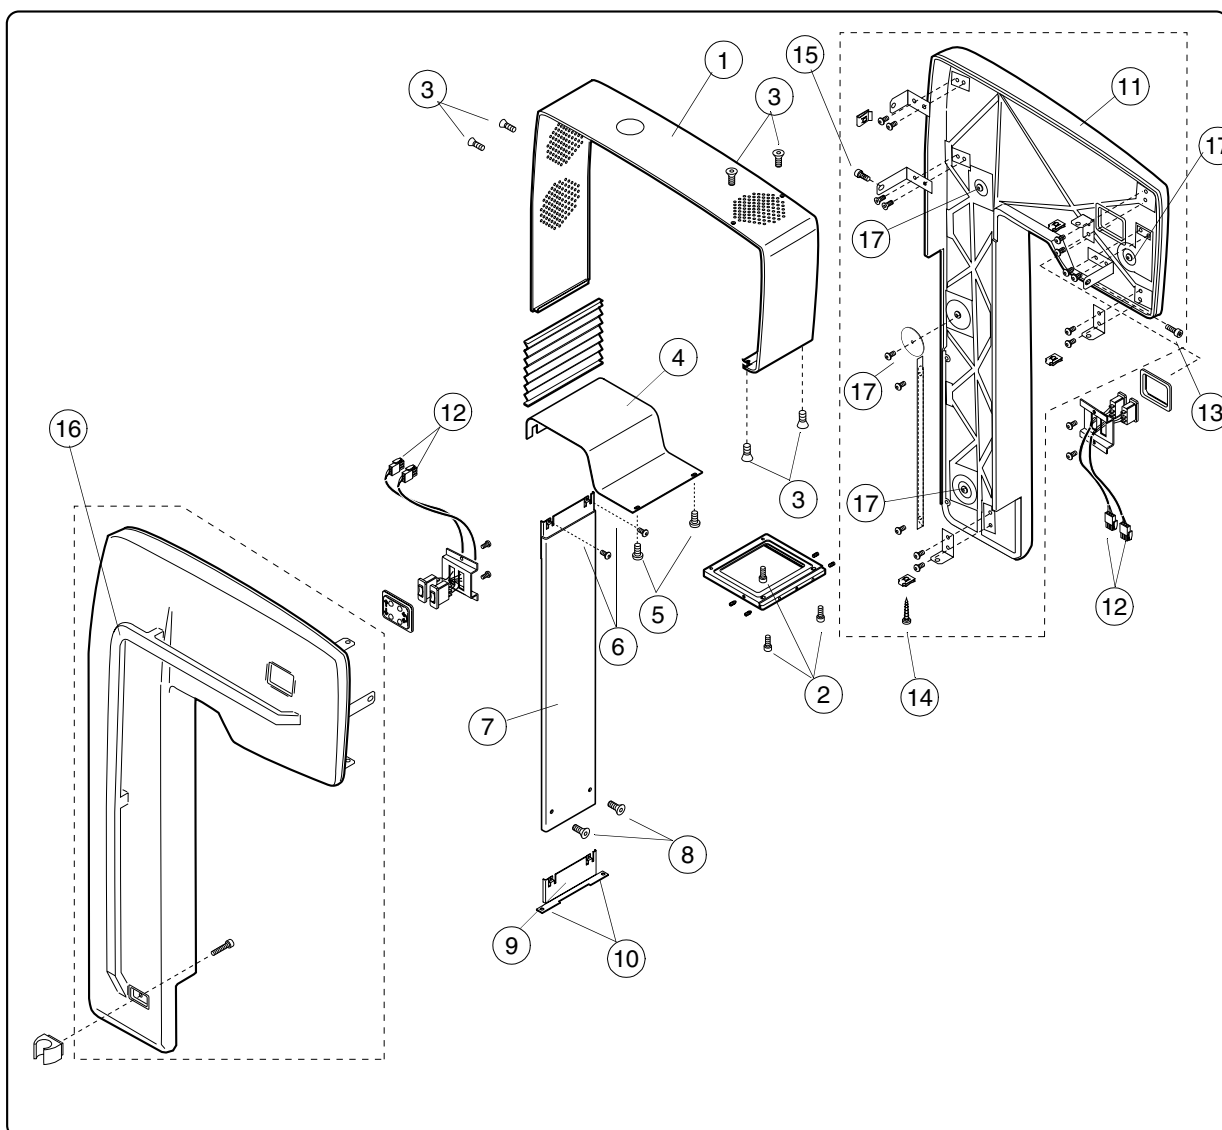

Figure H.5
**C-ARM top cover (Fig. H.5, 1)**
- a) Remove the beam window (Fig. H.5, 2) from the underside of the tubehead assembly by unscrewing its three screws. The screws secure also the top cover and side panels in position.
- b) Loosen the top cover screws (Fig. H.5, 3) and lift the top cover off.
**C-arm lower cover (Fig. H.5, 4)**
- a) Remove the two screws at the C-arm lower cover (Fig. H.5, 5) and the two screws at the upper part of the C-arm vertical cover (Fig. H.5, 6) and slide the lower cover off.
**C-arm vertical cover (Fig. H.5, 7)**
- a) Remove the two screws that hold the vertical cover to the support plate (Fig. H.5, 8).
**Vertical cover support plate (Fig. H.5, 9)**
- a) Remove the support plate fixing screws (2 pcs) (Fig. H.5, 10).
**C-arm side panels (Fig. H.5, 11)**
- a) Disconnect the connectors of the C-arm switches from the PCB (Fig. H.5, 12).
- b) Remove the side panel locking screws located at the front on the side panel (Fig. H.5, 13).
- c) Remove the screws on the underside of the cassette table (Fig. H.5, 14).
- d) Support the side panel with your hand and remove the screw located at the back of the unit (Fig. H.5, 15).
**Side handles (Fig. H.5, 16)**
- a) Remove the four screws (Fig. H.5, 17) from the side panel.